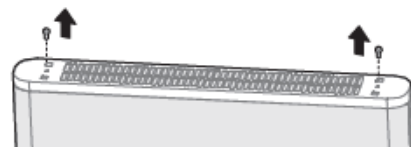

Figure 1
1. According to "Figure 1", turn the body down with the bottom upward, and take out the screws.